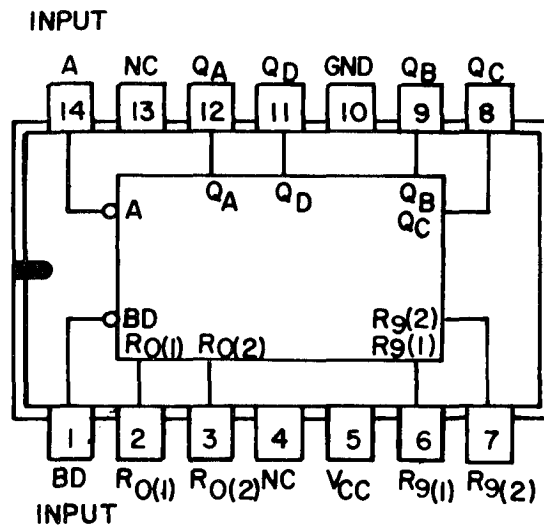

Figure 1-38. Decade Counter.
11. **Decade Counter (SN5490).** When output QA (fig. 1-38) is connected to input BD, the circuit provides a BCD output as shown in table 1-